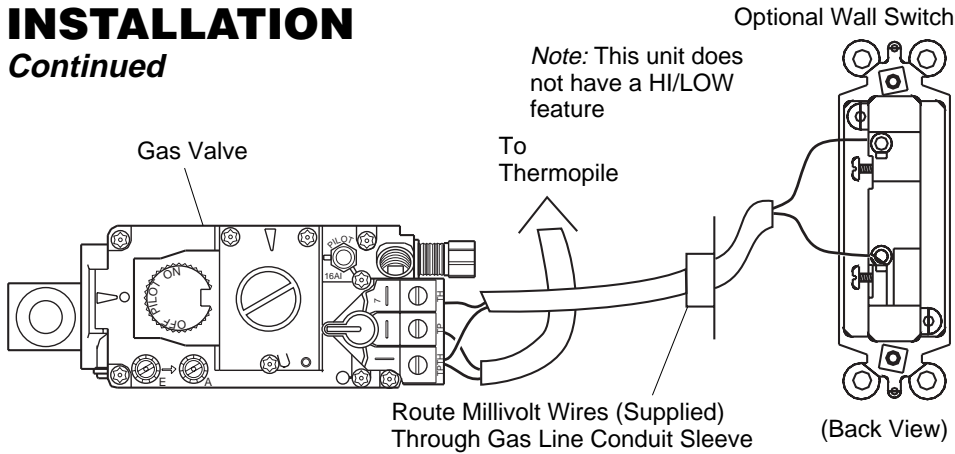

Figure 34 - Wall Switch Wiring Diagram
2. Connect the 18 ga. wires from wall switch (not included) to the gas control valve and microswitch, as shown in Figure 34, page 15.
2. Disconnect wall switch wires from TH and TPTH terminals on control valve (see Figure 34).